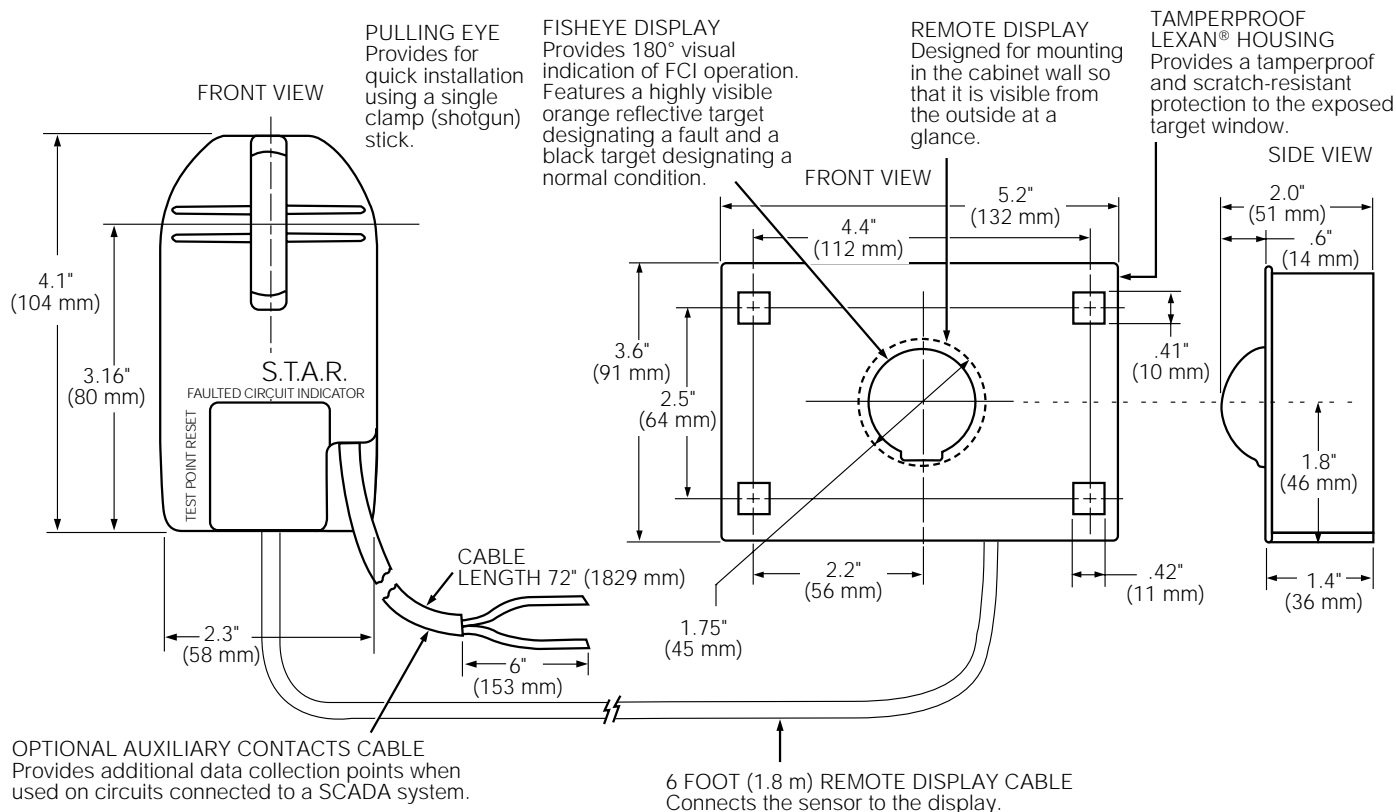

Figure 3.
*Per Figure 3, for a 25 kV Class Cooper Power Systems elbow the low trip rating is 400 A and the high trip rating is 800 A. The curves will shift slightly with different kV class elbows and different elbow manufacturers.